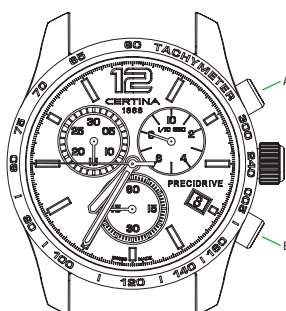

Fig. 4
- Final time readout (as per Fig. 4)**